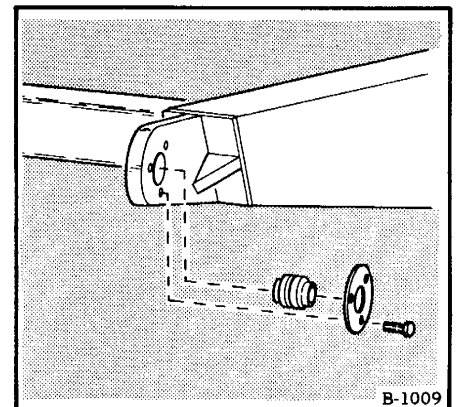

Fig. 25 Pivot Replacement
1. Remove the three capscrews from the ball pivot joint retaining flange (Figure 25) and drive the ball pivot assembly from its position in the lift arm using a hammer and a large drift pin.